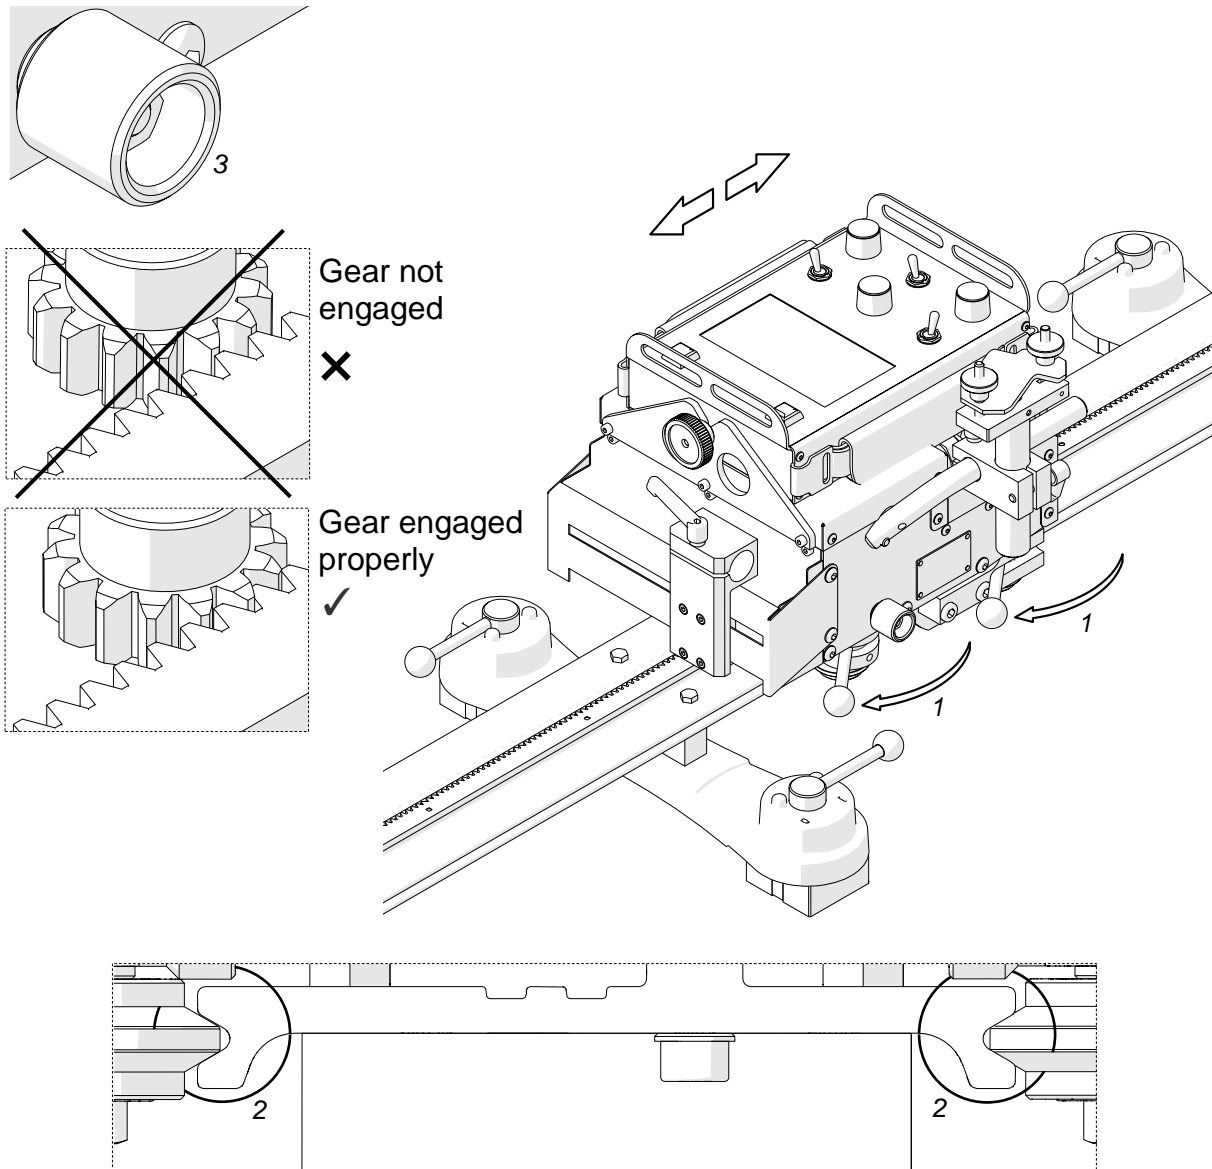

Fig. 8. Positioning the carriage on a straight track
Rotate the pressing levers to the position ON (1, Fig. 8) to place the rollers into the grooves (2). Then, while moving the carriage slightly left or right, tighten the drive clutch knob (3) to engage the gear wheel of the carriage with the gear rack of the rail. However, do not force the knob and keep some backlash between the gear wheel and gear rack.